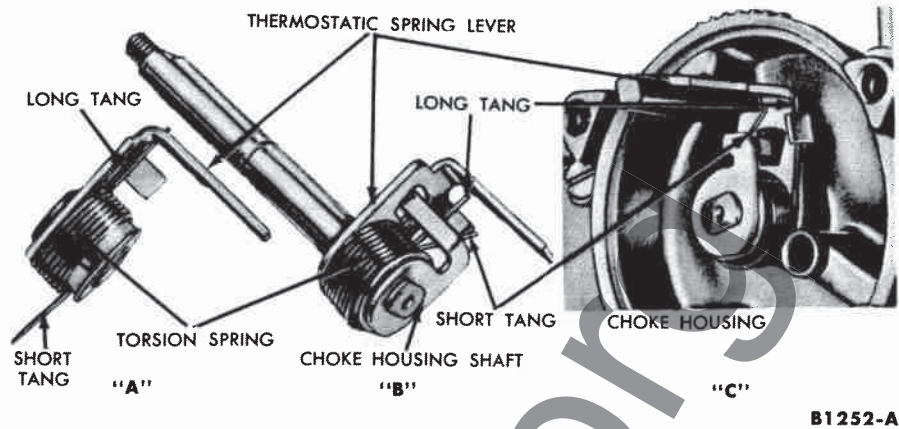

Fig. 6 - Choke Housing Torsion Spring Installation
1. Position the torsion spring on the thermostatic spring lever with the long tang against the lug on the lever (Fig. 6-A).
2. Slide the lever and spring assembly on the choke housing shaft with the short tang of the spring resting on the shaft and the lug positioned in the slot in the thermostatic spring lever (Fig. 6-B).
4. Slide the assembly into the choke housing (Fig. 6-C).